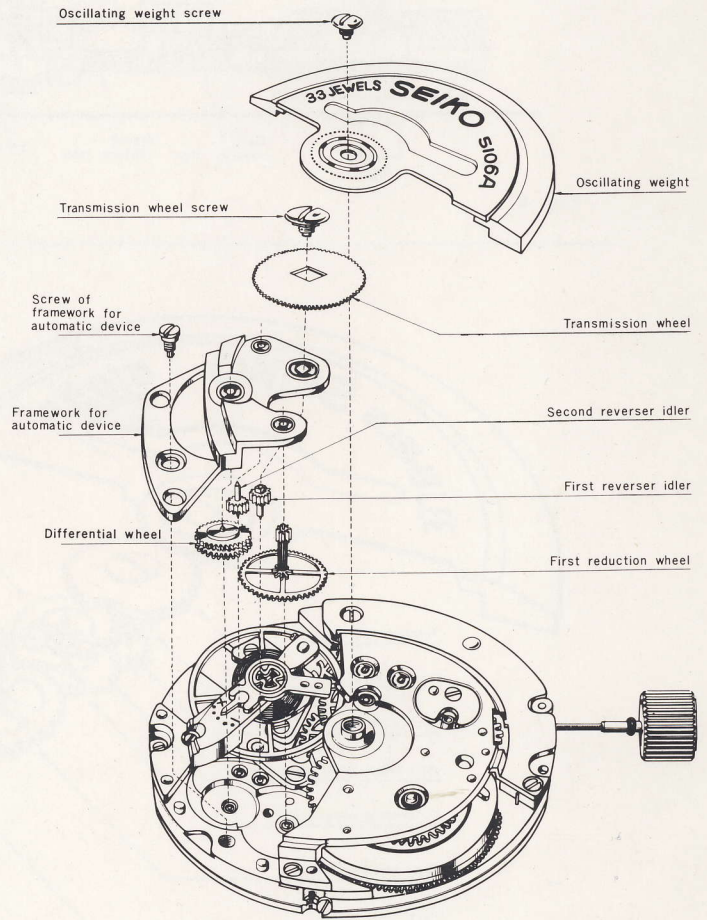

Fig. 3
2)-1 Exploded view of automatic winding mechanism (Fig. 3)